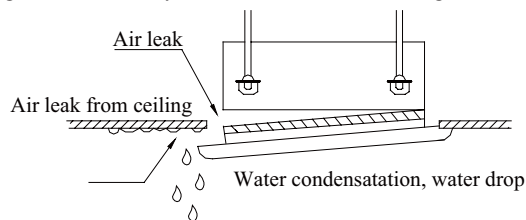

Fig.14
1. Improper screwing of the screws may cause the troubles shown in fig.14.